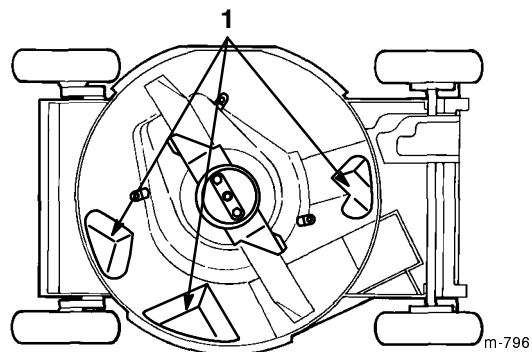

Figure 20
To ensure the best performance, keep the underside of the lawn mower housing clean. Be especially careful to keep the kickers free of debris (Fig. 20).
3. Tip the lawn mower onto its **right** side (Fig. 20).